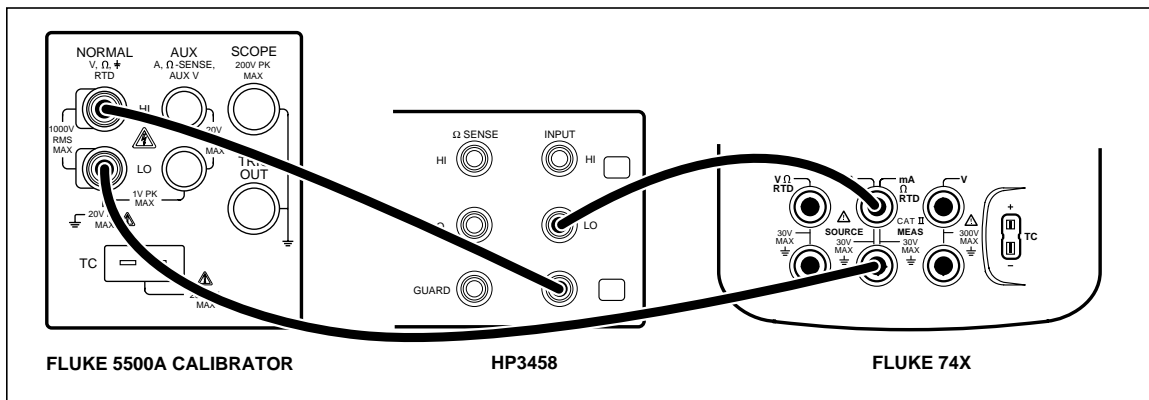

Figure 8. Simulate Transmitter Verification Connections
1. Connect the UUT, HP3458A, and 5500A as shown in Figure 8. The 5500A is used as a stable dc voltage source. Its value is not critical, and another dc source such as a battery can be substituted.